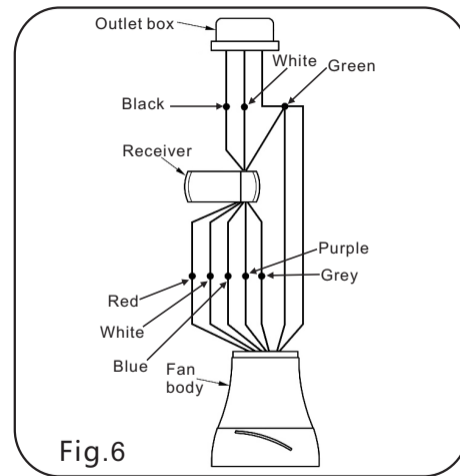

Fig.6
Step 1: Motor to Receiver electrical connections: connect the **WHITE WIRE** from the fan to the **WHITE** wire from receiver. Connect the **RED** wire from the fan to the **RED** wire from the Receiver. Connector the **BLUE** wire from the fan to the **BLUE** wire from the recelver. connect the **PURPLE** wire from the fan to the **PURPLE** wire from the receiver. Connect the **GREY** wire from the fan to the **GREY** wire from the receiver.(Fig. 6)
Step 2: Connect the fans ground wire (green) located on the mounting bracket to the household ground wire. Secure wire connection with the plastic wire nut provided.(Fig. 6)
Step 3: Receiver to House Supply Wires Electrical connections: Connect the **WHITE** wire from the outlet box to the **WHITE** wire from the receiver. Connect the **BLACK** wire from the outlet box to the **BLACK** wire from the receiver. Secure all wire connections with the plastic wire nuts provided. After all splices are made, check to make sure there are no loose strands.As an additional precaution we suggest to secure the plastic wire connectors to the wires with electrical tape.(Fig. 6)